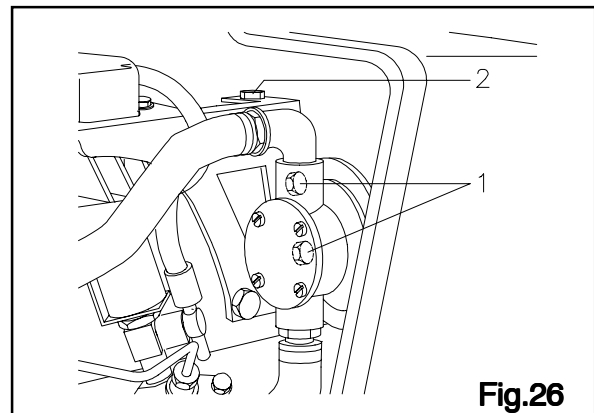

Fig.26
**REMEDY:** Stretch the belt. Loosen the fixing bolts of the water pump (Fig.26 Ref.1). Adjust the screw (Fig.26 Ref.2) and tighten the fixing bolts(Fig.26 Ref. 1).